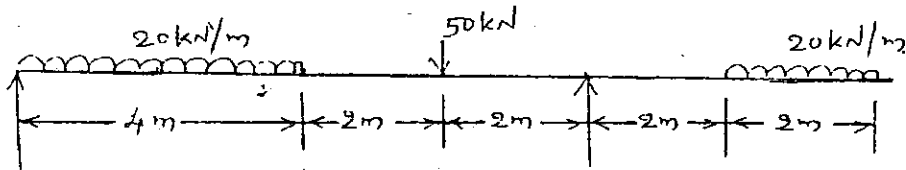

Fig. 2
- (b) Draw the shear force and bending moment diagrams for the beam shown in figure 2.